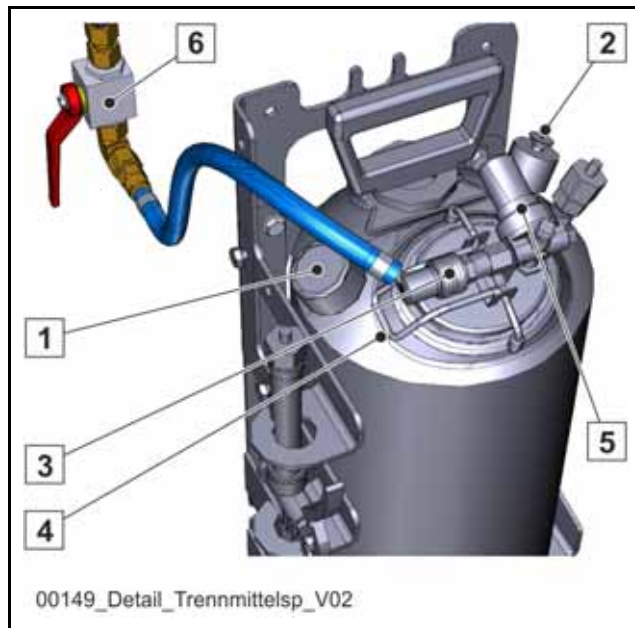

Fig. 496
Only open the pressure tank if the pressure gauge on the pressure tank (1) (Fig. 496) is pointing to "0".
Caption (Fig. 496)
2. Connect the quick-acting coupling (3) (**Fig. 496**) to the compressed air supply of the pressure tank.
3. If available, open the ball valve (6) (**Fig. 496**).
The pressure release valve (5) (**Fig. 496**) is set to the optimal value in the factory and may only be changed by a SCHWING representative.
- Disconnect the compressed air supply from the pressure tank, if available, by closing the ball valve (6) (**Fig. 496**) or by switching off the vehicle and disconnecting the quick-acting coupling (3) (**Fig. 496**).
- Open the pressure relief valve (2) until compressed air no longer exits the pressure tank.